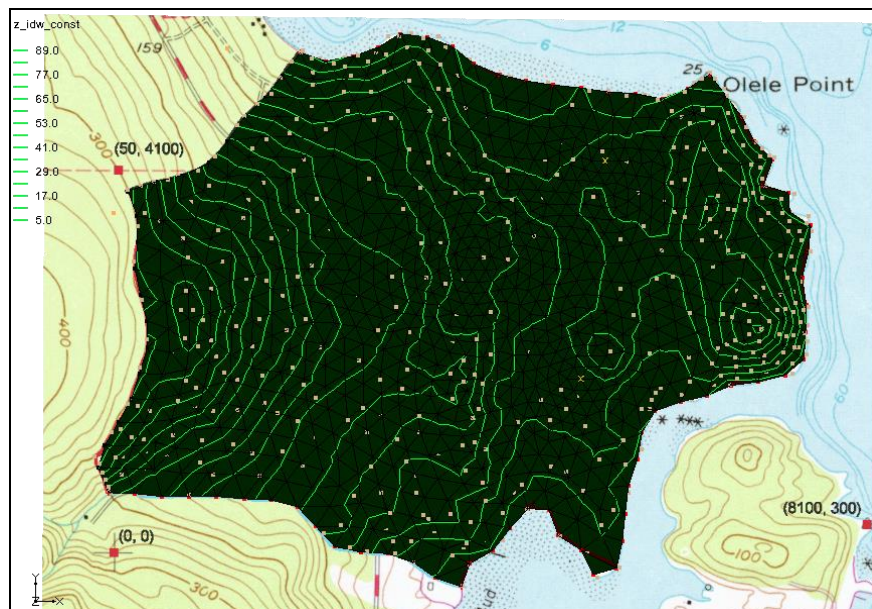

Figure 5 Terrain scatter data has been interpolated
2. Click **OK** to accept the defaults and close the *Interpolate → Object* dialog. The Graphics Window will appear as in Figure 5.